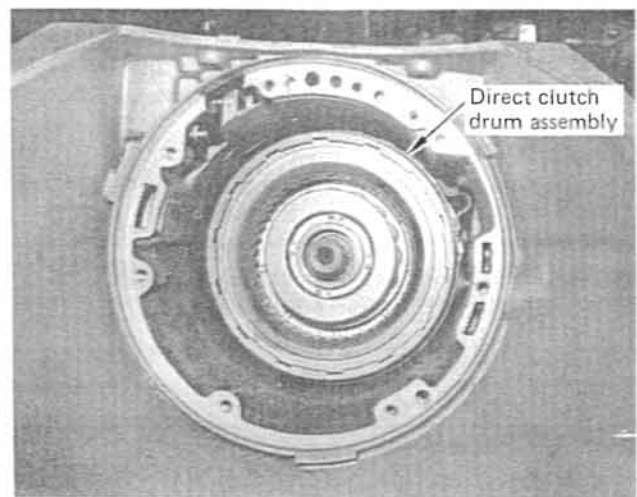
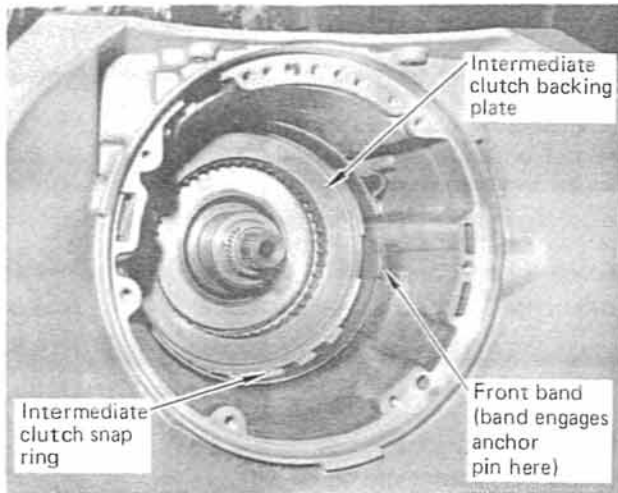

FIGURE 11
FIGURE 12
**STEP 14.** Remove the direct clutch drum assembly. (See Fig. 11) It will pull straight out. The sun shaft may come out at this time. This is OK. Set the direct clutch drum aside. Remove the front band by disengaging it from the anchor pin and pulling it out. (See Fig. 12) Set the band aside.
**STEP 15.** Remove the intermediate clutch snap ring. (See Fig. 12) Remove intermediate clutch backing plate and set it aside. Remove and discard three intermediate clutch plates and three steel plates.